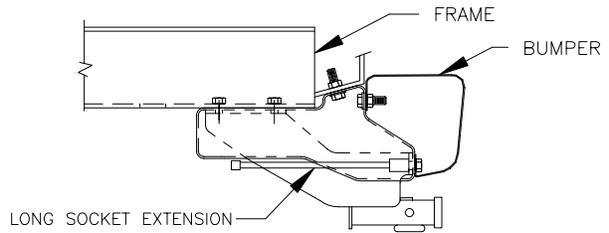

FIGURE 1
- 3. INSTALL FASTENERS AS SHOWN IN FIGURE 2. A SOCKET AND LONG EXTENSION IS NECESSARY TO TIGHTEN THE LOWER BUMPER BOLTS, SEE FIGURE 1.